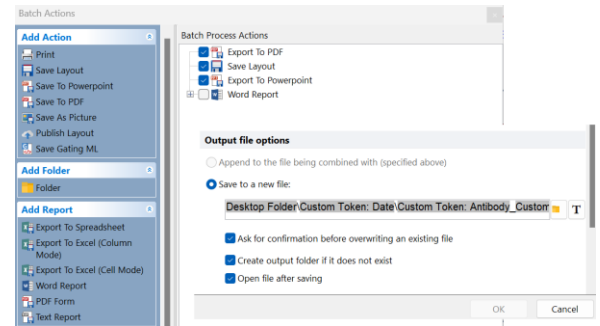

Figure 12 - Batch Process Actions window and partial view of action window to display output file options.
- 12.) Click on the **Batch & Export** tab → **Actions & Reports** (or **Batch** tab → **Batch Actions** in versions earlier than 7.22.0006). Double click on each action and confirm the location for exports to be saved for any actions selected is correct (*Figure 12*).